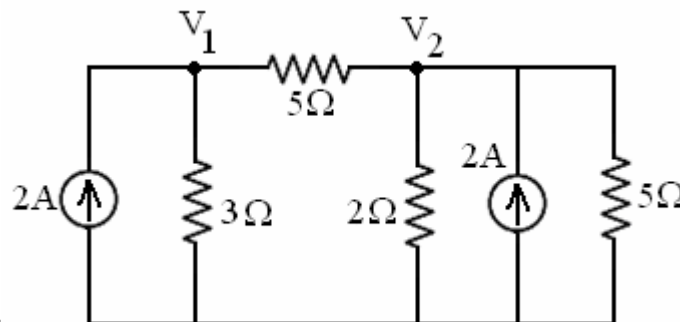

Figure 2
- b) Find the node voltages in the below circuit (shown in Figure 2). [8+7]